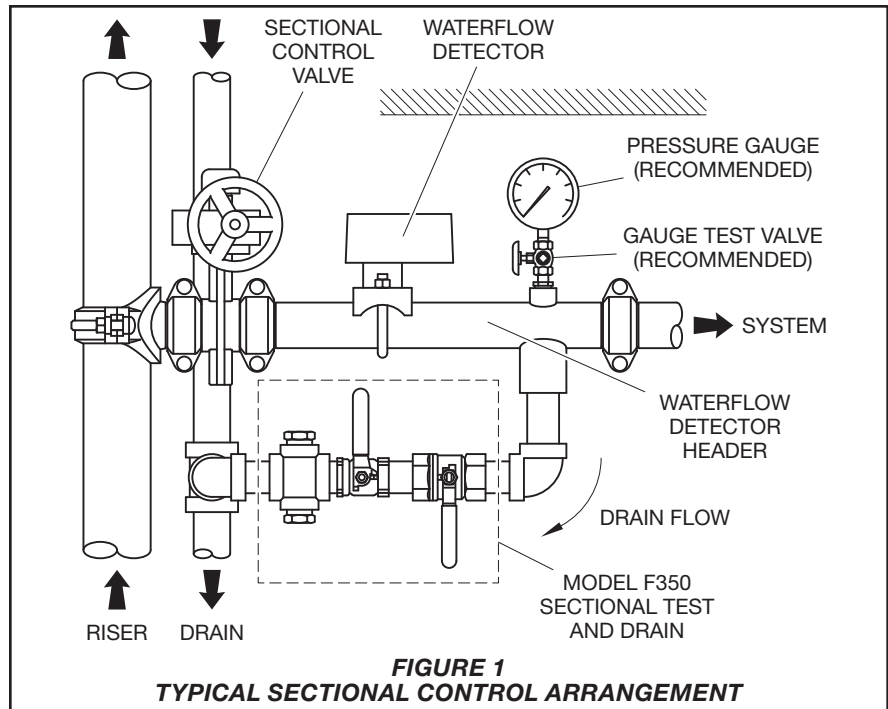

FIGURE 1
Figure 1 illustrates a typical sectional control arrangement that is utilized for the flow control, inspection, testing, and draining of feed mains to sections of wet pipe automatic sprinkler systems. A typical application is in a multi-story building where waterflow alarm devices are required on each floor at each riser.
Step 2. Position the Shut-Off Valve handle in the “ON” position. Water is then permitted to flow through the test orifice to simulate the flow from an individual 5.6K (80K) orifice sprinkler located downstream of the waterflow detector (Ref. Figure 1).